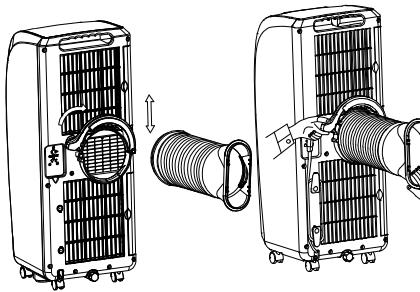

Figure 5
- (1). Hold the end handle of the C shape buckle of the heat exhaust hose with the left hand and the heat exhaust hose short connector with the right hand, put one end of the heat exhaust hose that is pulled apart onto the snap of the lower air duct bottom, press the C shape buckle of the heat exhaust hose with the left hand by force so that the C shape buckle of the heat exhaust hose clips the snap joint of the back shell (as shown in Figure 5).
1. The round connector must be put on the step inside the bottom of the lower air duct (as shown in Figure 5).